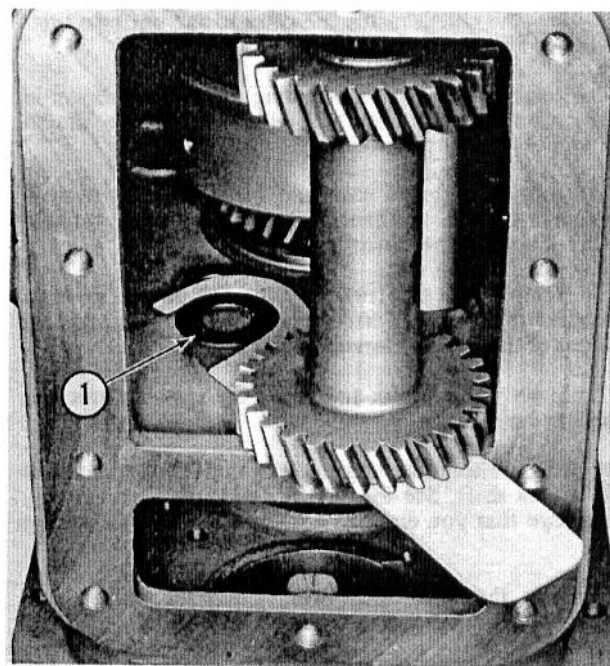

Fig. 32 - Removing the Countershaft
4. Slide the countershaft gear (complete with its four paths of 17 loose needle bearings totaling 68 rollers) further up the handle of the tool, as shown in Fig. 32. This keeps the loose rollers in place. Slide the tool and the countershaft gear assembly out of the transmission.